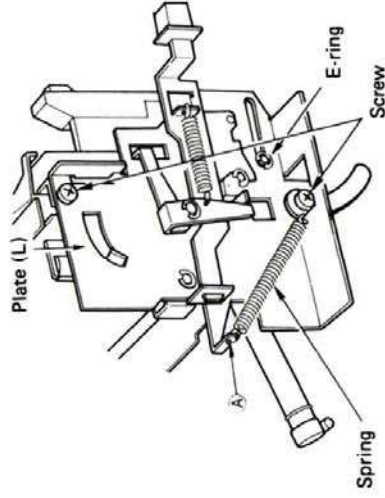

Fig. 10
- 4) Disconnect the spring from point A shown in Fig. 10.
- 5) To remove the cassette holder, remove the E-ring shown in Fig. 10.
- 6) Remove the 2 screws shown in Fig. 10 and turn the lever toward the arrow, then the plate (L) can be removed for maintenance on the mechanism base.